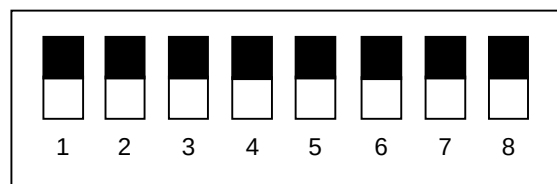

Figure 5.2.6 Standard DIP Switch Setting
As a result of the operations ① and ②, one of the CTL ASSYs is shut down. (If one of them has been already shut down before memory dump collection, the operations ① and ② are not necessary.) After checking that the ASSY has been shut down, set the DIP switch No.8 as shown in Figure 5.2.6.
- ⑤ To collect a memory dump from the next controller, do the following:
- To collect the memory dump for this remaining controller, execute steps ③ and ④ again.
- ⑥ Set the DIP switch No.2, as shown in Figure 5.2.6.